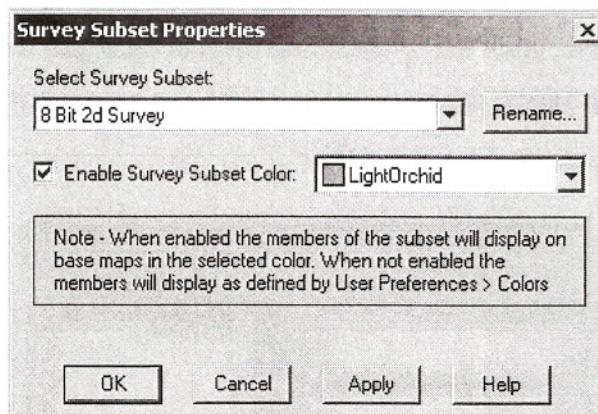

Figure 1.11 - Survey Subset Properties dialog box
2. In the survey **Subset Properties** dialog box (Figure 1.11), click the down arrow and select the **8 Bit 2d Survey**. Check the box next to **Enable survey Subset Color** and pick a color. Click **Apply**.